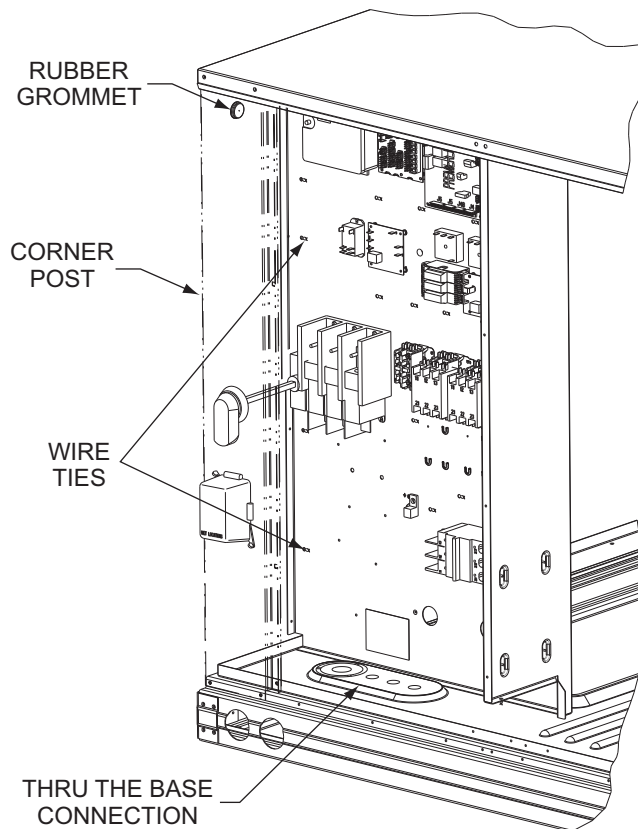

Fig. 35 — Field Control Wiring Raceway
2. Feed wires through the raceway built into the corner post (see Fig. 35) to the 24-v barrier located on the left side of the control box. The raceway provides the UL-required clearance between high-voltage and low-voltage wiring.